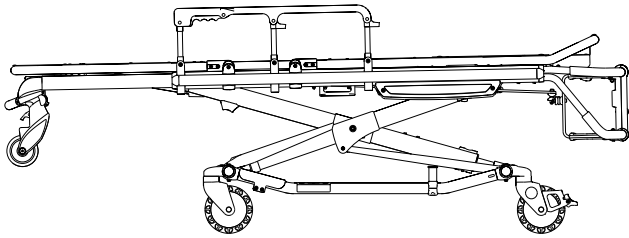

**Figure 12 - Cot Load Height**
3. Select HIGH, MID or LOW depending on the cot load height requirements (see Figure 12). For example: